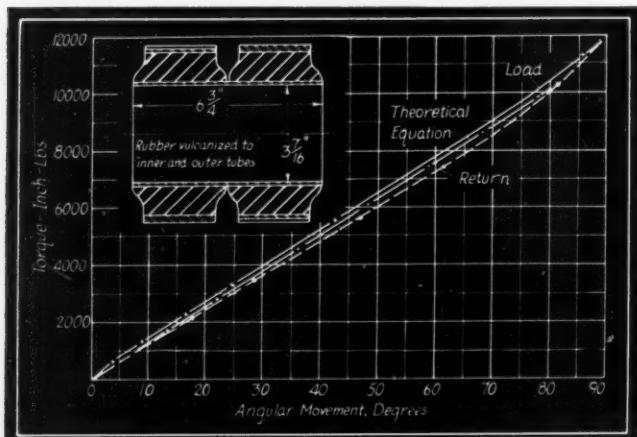

Fig. 5—Double unit torsion spring, with graph showing that up to 70 degrees it has straight line characteristics conforming closely with theoretical curve
*Fig. 5* shows a double unit torsion spring of such design that nearly a straight-line characteristic is obtained up to 70 degrees as shown by the graph. The heavy dot-dash line was plotted from the theoretical equation given above, showing close conformity to the empirical curve. The rubber units act in series to give twice the angular deflection for a given torque as would be obtained with one bushing. Series arrangements of this kind can be used to obtain very large distortions without going to excessive thicknesses of rubber wall.